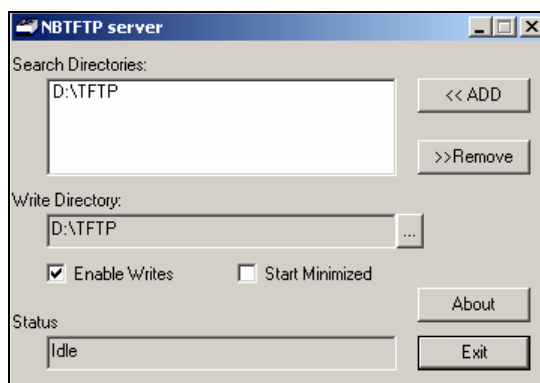

Figure 3-8: NBTFTP Server Window
2. **For Upload Configuration: Make sure Enable Writes checkbox is checked (see Figure 3-8).**
The NBTFTP server window appears (Figure 3-8)